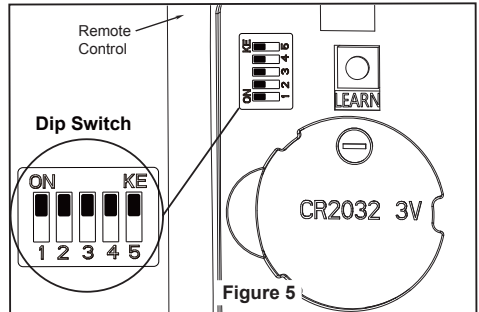

Figure 5
4. After connections have been made, put the white and green leads to one side and the black leads towards the other side, the connection should be turned upward and carefully push leads into the outlet box. The wires should be spread apart with the grounded conductor and the equipment-grounding conductor on one side of the outlet box and the ungrounded conductor on the other side. (Figure 5)
- ☐ 5. Assemble the LED assembly to the switch housing assembly using the two key slots. Replace the removed screw and secure all three screws. (Figure 5)
5. To set the remote code same positions as the receiver with a small screwdriver or ball point pen (neither included), slide dip switches firmly up or down. (Figure 5)